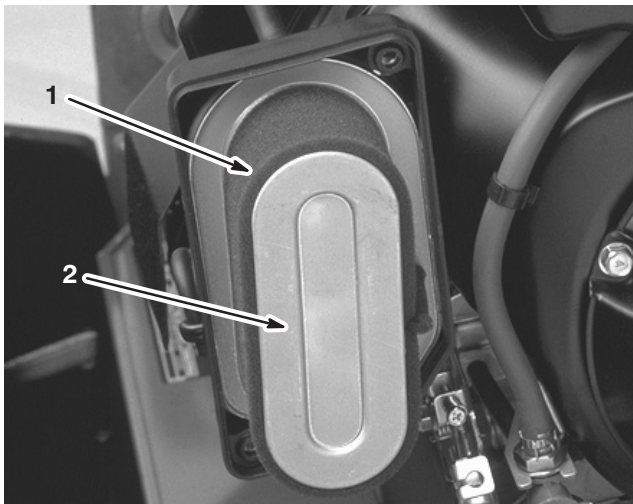

Figure 30
4. If the foam element is dirty, remove it from the paper element (Fig. 30) and clean it thoroughly.